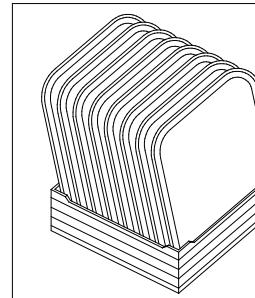

Fig.12
- Put trays in the baskets, making sure is in its separate rack (Fig.12).